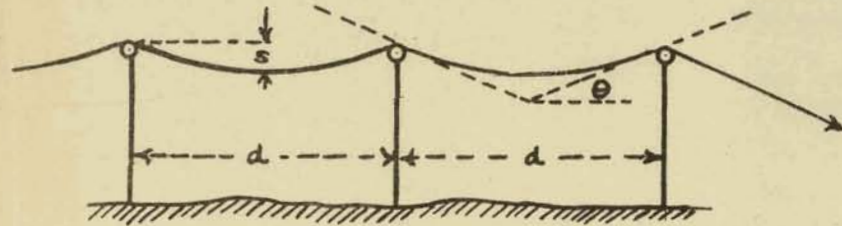

Fig. 2
2. Figure 2 shows the erection of an electric cable weighing 900 kilograms per span between posts. The tension in the cable where it runs over the pulleys is 950 kilograms. Calculate the sag S of the cable. (You may assume $S = \frac{1}{4}d \tan \theta$) The distance between the posts is 200 metres.